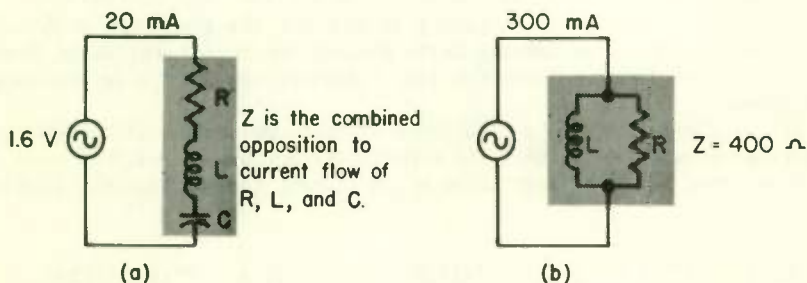

Fig. 3
- In Fig. 3(a) the impedance Z is (a) _____ ohms. In Fig. 3(b) the generator voltage is (b) _____ volts.